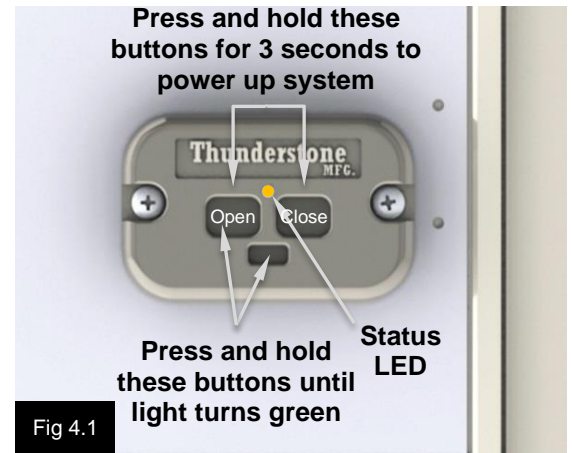

Fig 4.1
3. Turn keypad controller on by pressing and holding the two large buttons "**Open**" and "**Close**" for approximately 3 seconds – the status LED light and the two large buttons will illuminate when the power is on. See figure 4.1
4. On the trailer keypad press and hold the program button (small button), then press and hold the large "**Open**" button simultaneously. Release both buttons when the LED turns solid green. The LED will then flash orange rapidly which indicates it is ready to receive remote programming. See figure 4.1